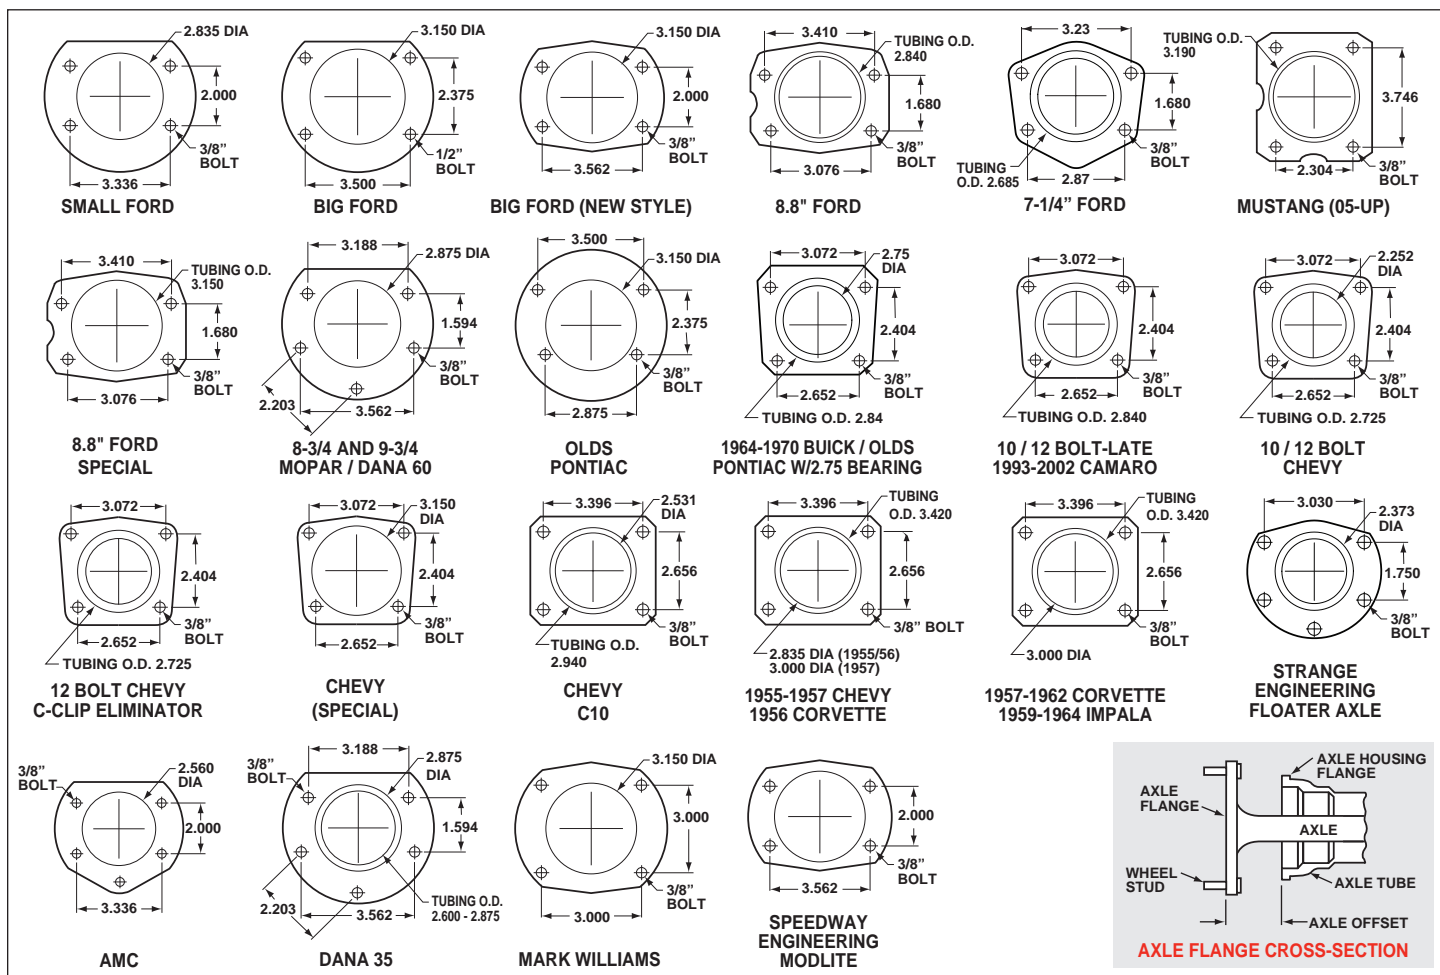

Figure 6. Rear Housing Flange Chart and Axle Flange / Offset Cross-Section
• Make sure this is the correct kit to fit your axle housing flange and axle offset. Multiple rear axle assemblies were available on 1966-77 Ford Broncos. Using Figure 6, check that your rear axle matches the description on page 1 of these instructions (i.e. Big Bearing Ford, 2.00 Offset).
- Bearing outside diameter, Figure 6.
- Dimension from wheel side of axle flange to wheel side of axle housing flange (see Figure 6, lower right hand corner). This dimension is critical to ensure proper alignment of the rotor to the caliper, and should match offset given in the kit description.